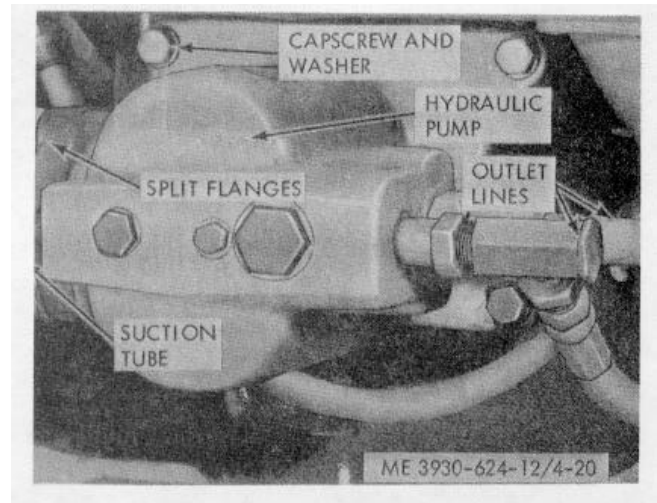

Figure 4-20. Hydraulic pump removal.
(1) Remove the rear grille from the counterweight.
(2) Raise the operator's seat and remove the side panels.
(3) Remove split flange on the suction tube on the hydraulic pump; remove the pump as shown in figure 4-20.
(4) Remove the four capscrews and washers securing the pump to the engine block. Slide the pump away from the engine block to provide enough clearance to install the fan belt.
(5) Loosen the alternator to relieve the tension on the fan belt. Slide the belt from the crankshaft pulley.
(6) Slide the belt off the alternator pulley, then off fan pulley and over the fan.
(7) Install a new belt over the fan and around the fan pulley, alternator pulley and crankshaft pulley.
(8) Adjust the fan belt (para 4-31).
(9) Install the hydraulic pump by direct reversal of the removal procedure. Install the rear grille.
(10) Install the side panels and the lower seat.